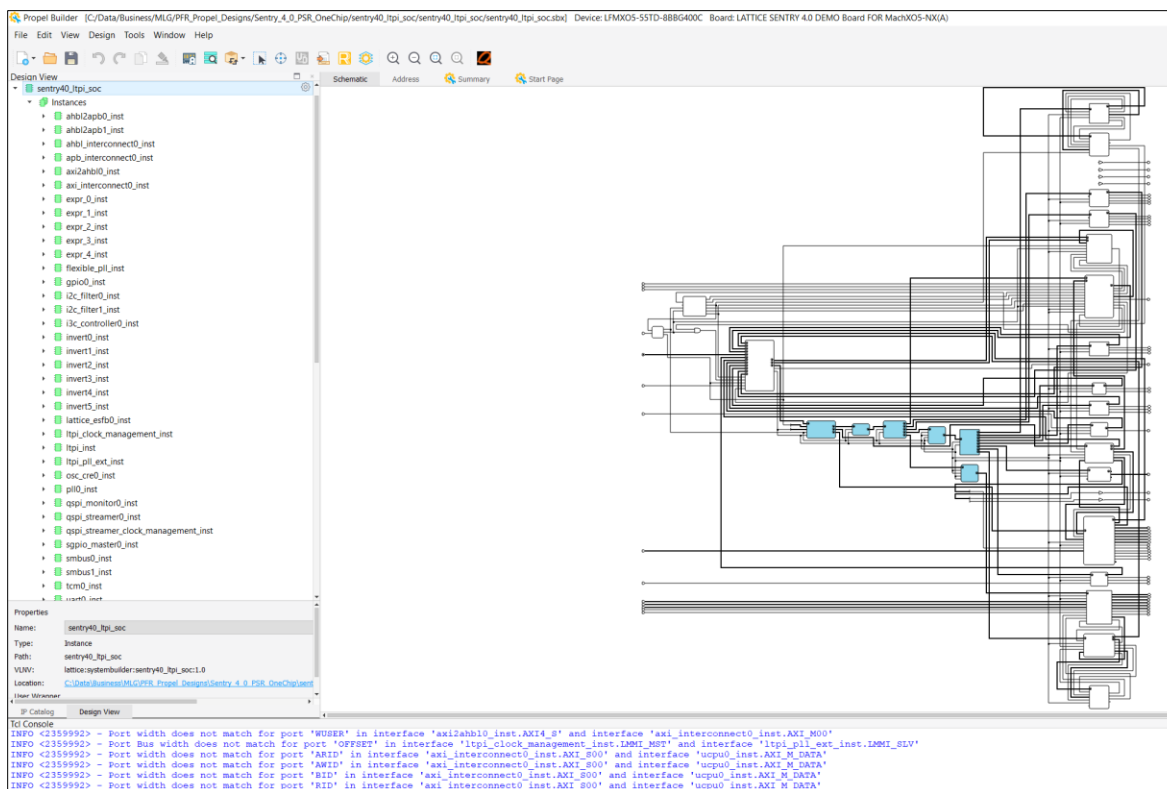

Figure 4.8. SoC Project – Created
10. The SoC project opens in Lattice Propel Builder (Figure 4.8).